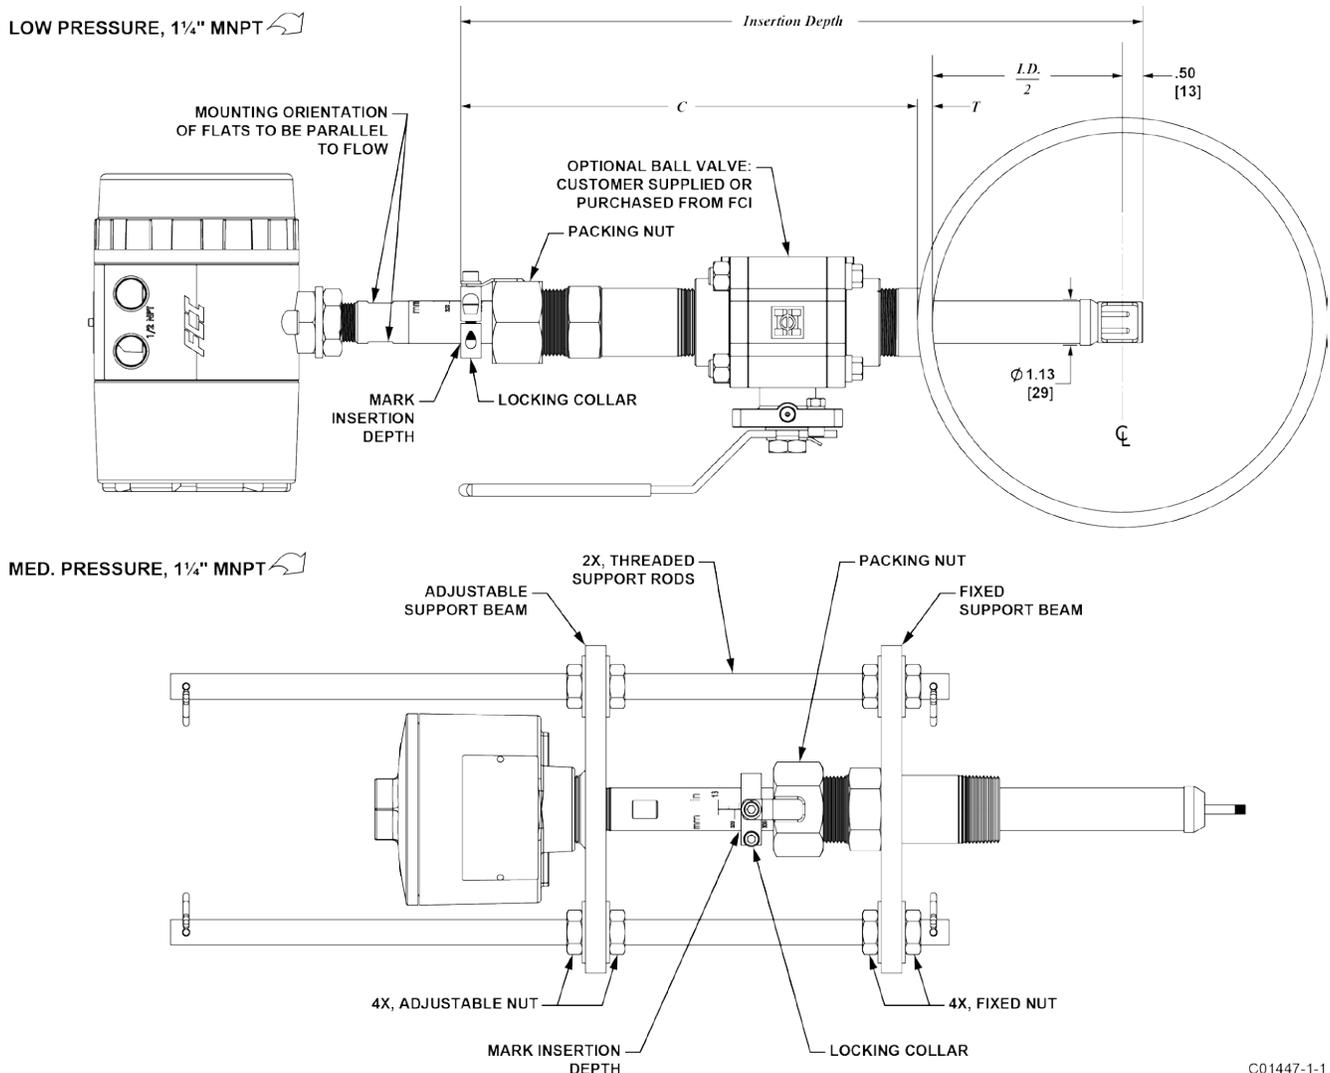

Figure 5 – Retractable Packing Gland Installation
1. The scale etched on the side of the insertion probe indicates the length to the tip of the flow element. Calculate the insertion depth using the equation, variables, and Figure 5 below.